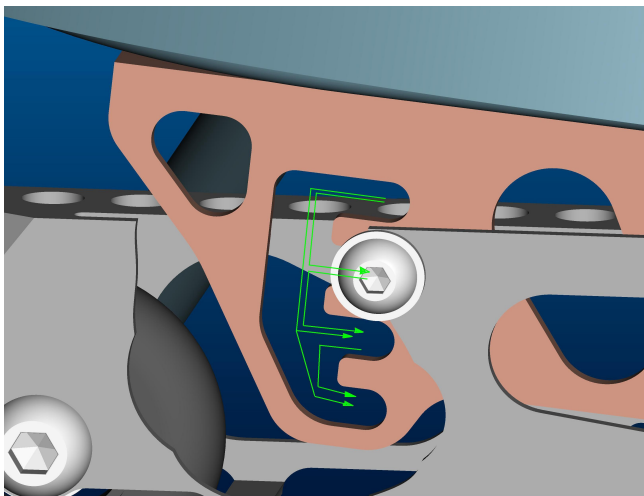

Fig. 4 – Correct (left) and incorrect (right) positions.
4. Tighten the four 'A' screws as shown in fig. 4